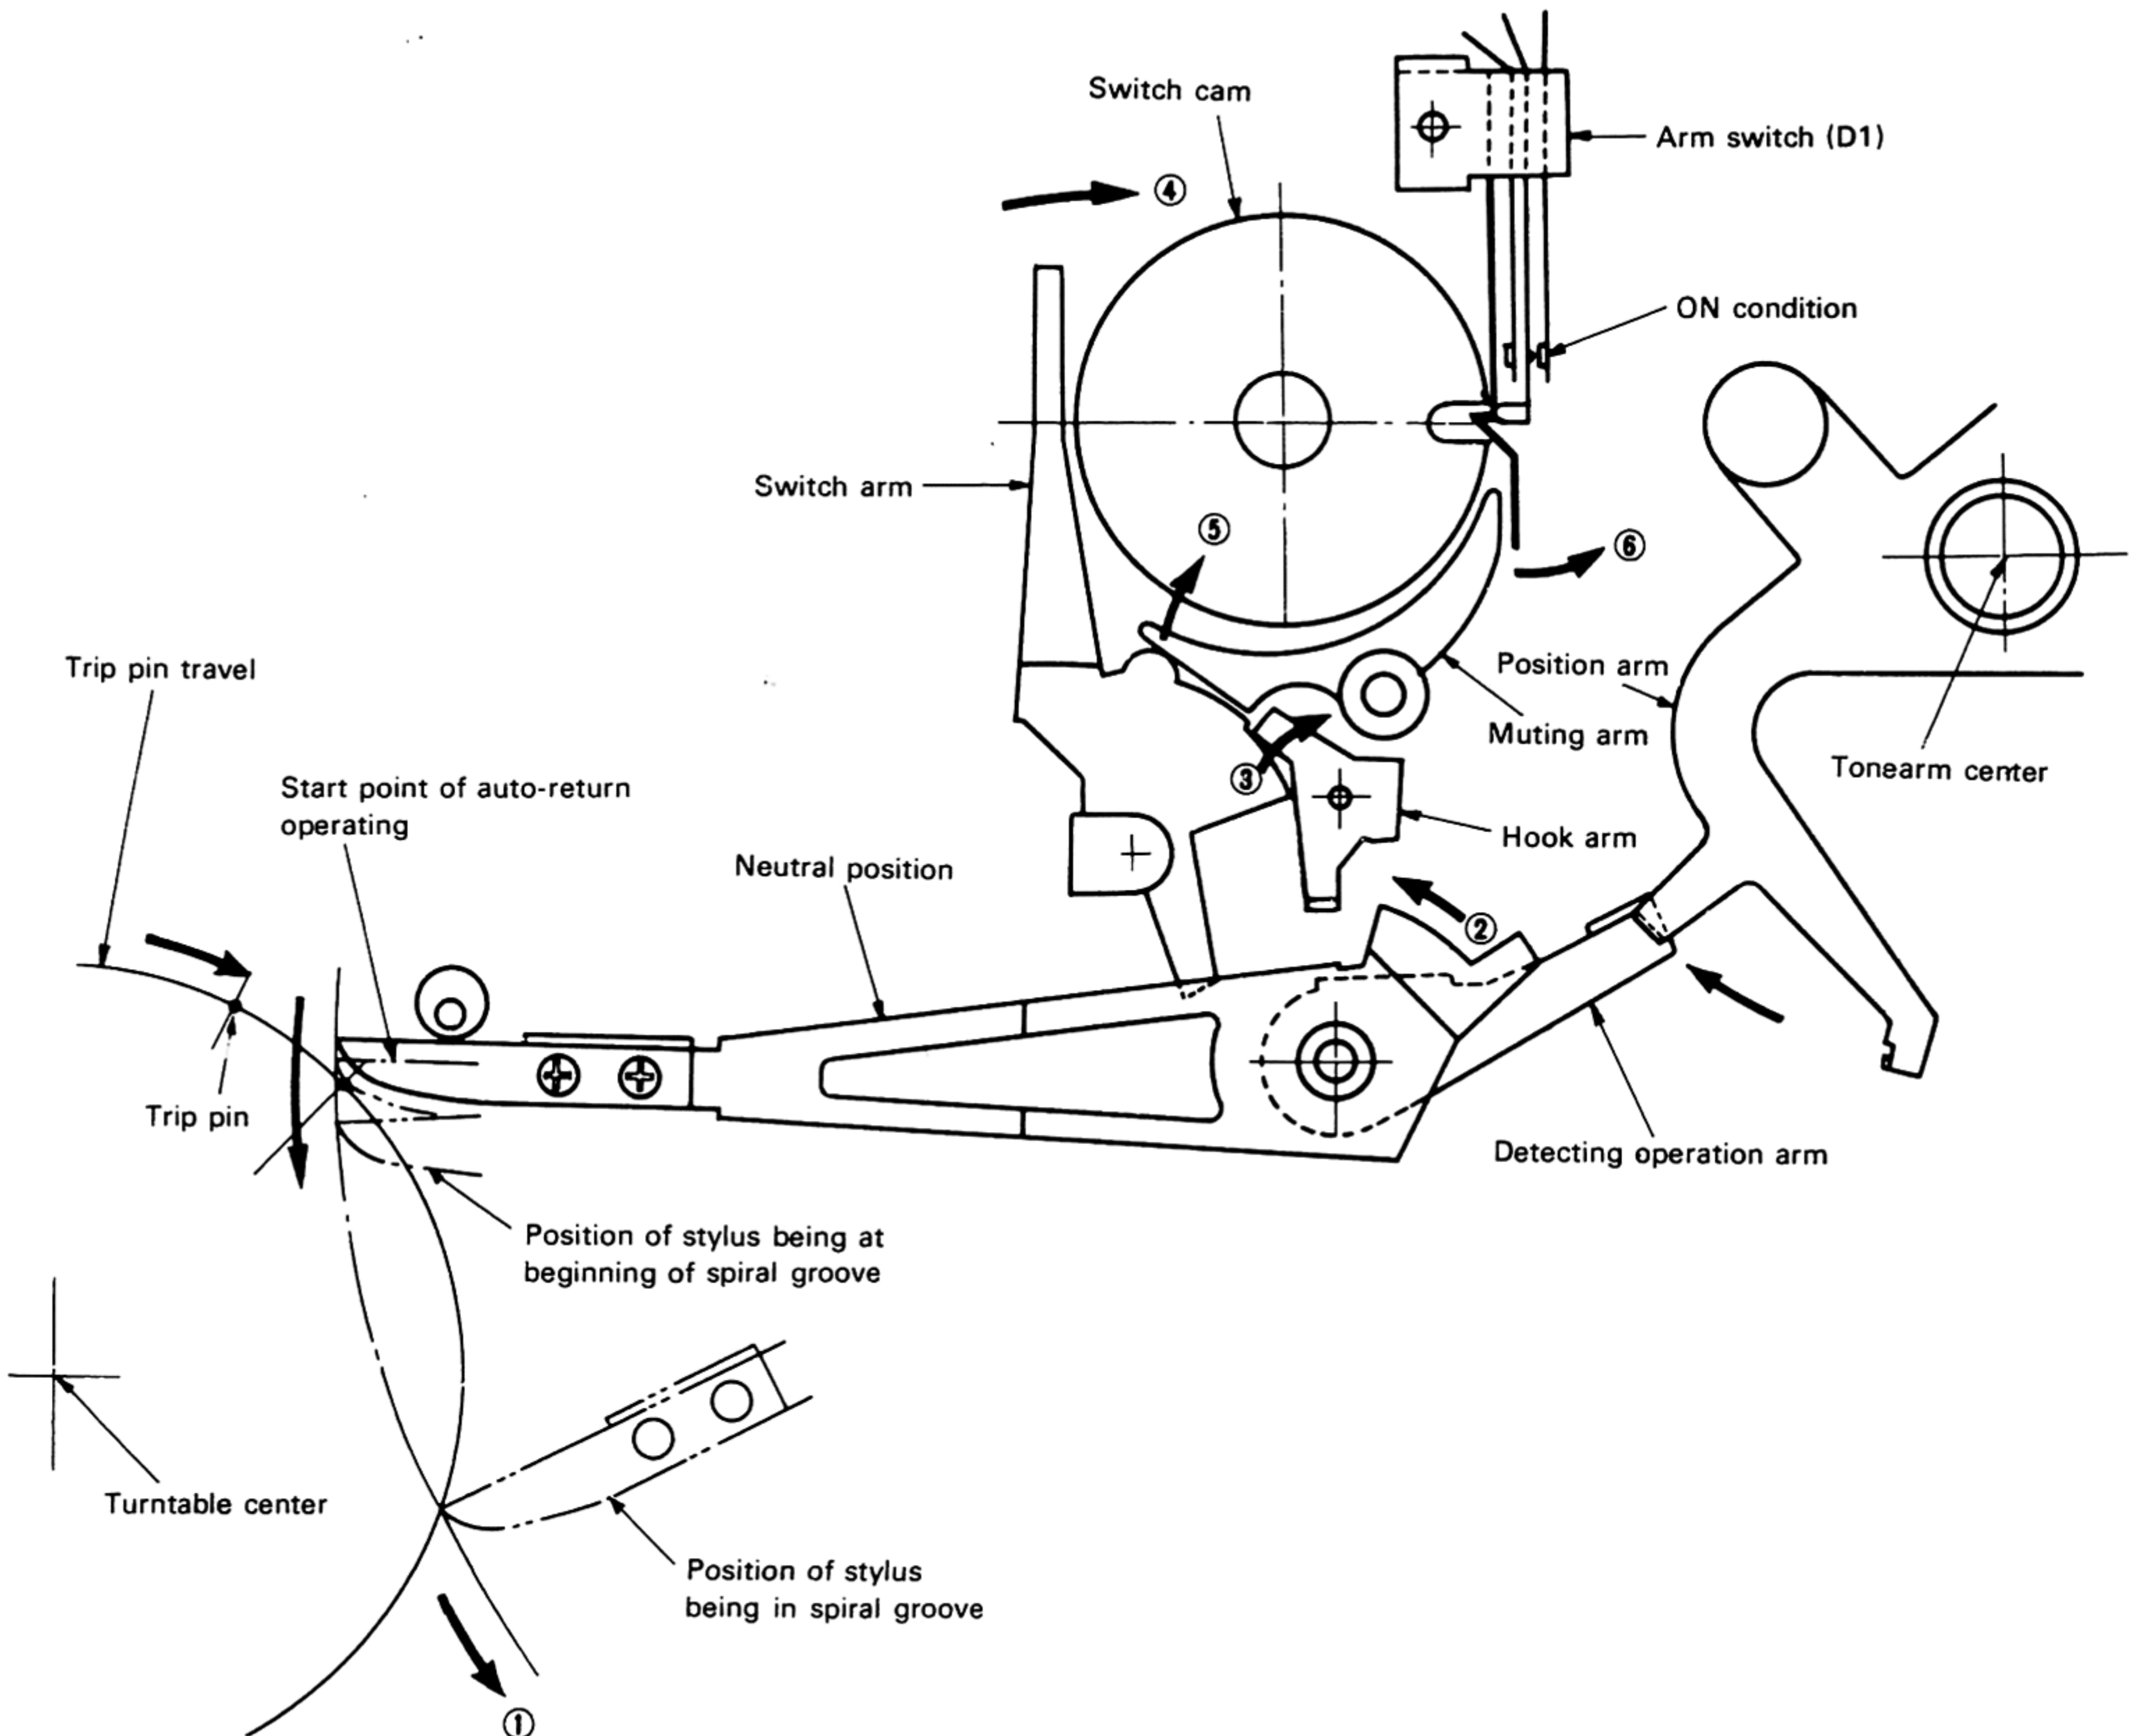

Fig. 7
When the tonearm comes to around 60 mm from the center of record, the "detecting arm tip" comes in contact with the "trip pin" at the back of the turntable (start of return detecting operation). The inward movement of the tonearm during playing is little, and the "detecting arm tip" which has touched the "trip pin" is slightly kicked away in the reverse direction. From the start of the return detecting operation to the end of the record playing, this slight movement repeats itself. When the tonearm comes onto the spiral groove, the tonearm is pulled inward more quickly, and the "detecting arm" moves inside the "trip pin" radius, hooks to the rotating trip pin. Then it swings by around 32° . At this time the interlocking switch turns on and the tonearm lift and the return operation begins by rotating the timing motor from 180° to 360° (0°) (Fig. 7).
This mechanism is for temporarily muting the output, and begins its muting action prior to the 32° swing motion of the detecting arm in AUTO-RETURN detection described before. How this mechanism operation will be explained in reference to Fig. 7. First, trip pin hitches onto detecting arm. Under this condition, the detecting arm is turned in direction (1). The other end of the detecting arm moves in direction (2) to actuate hook arm. The resultant movement of hook arm is indicated as (3).